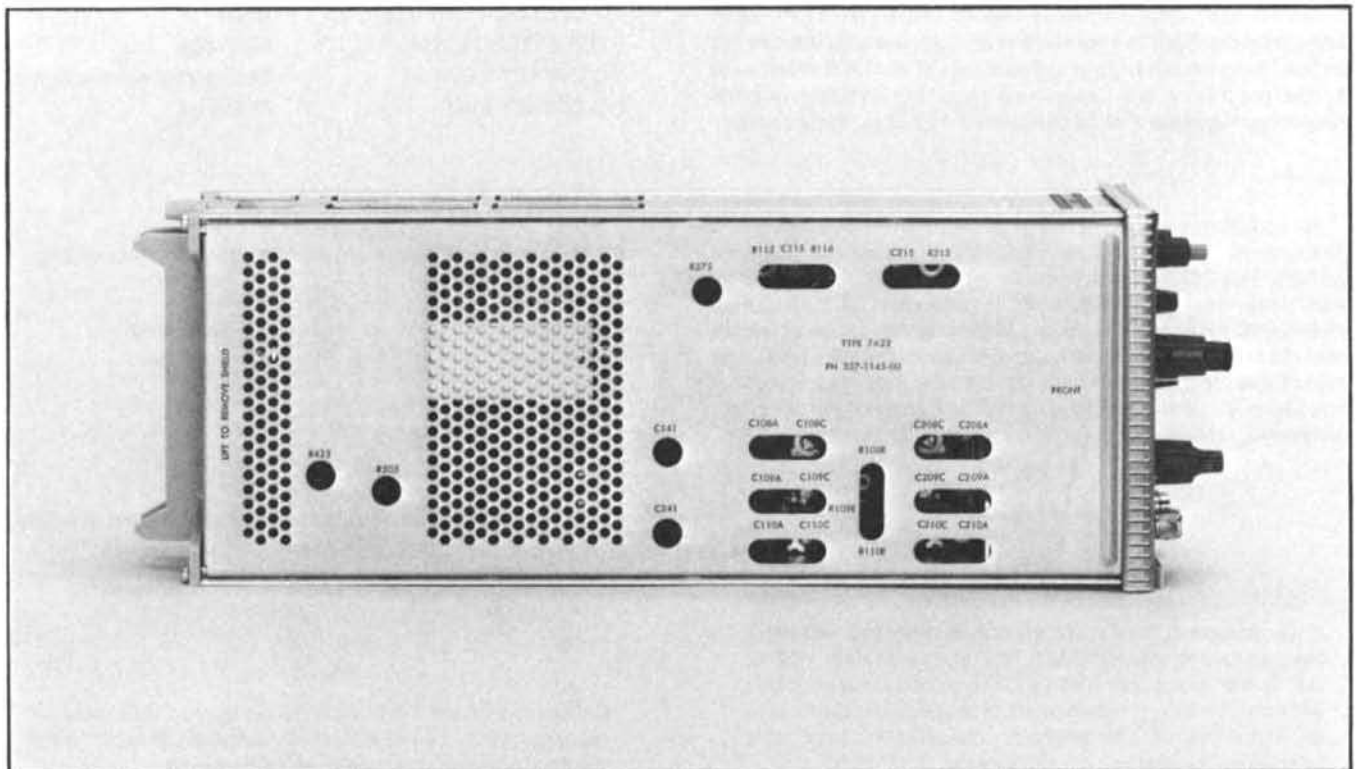

Fig. 5-1. Left side of the 7A22 showing adjustment locations.
- ADJUST—AC Step Atten Bal control, R505, (see Fig. 5-1) to position the trace within 1.5 div of graticule center.
- ADJUST—Variable Bal control, R425, (see Fig. 5-1) for no trace shift while rotating the VARIABLE control.
- d. ADJUST—Coarse DC Bal, R275, (see Fig. 5-1) to position the trace to graticule center.
- ADJUST—The +Gate Current Zero control, R115, (see Fig. 5-1), to position the trace to graticule center.
- ADJUST—The -Gate Current Zero control, R215, (see Fig. 5-1), to return the trace to graticule center.